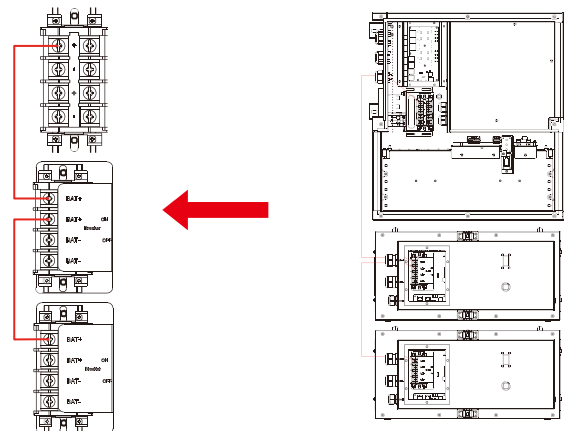

Figure 2.35 Connect the Positive Power Line
**Step 18** Connect positive power line for expansion (Figure 2.35).